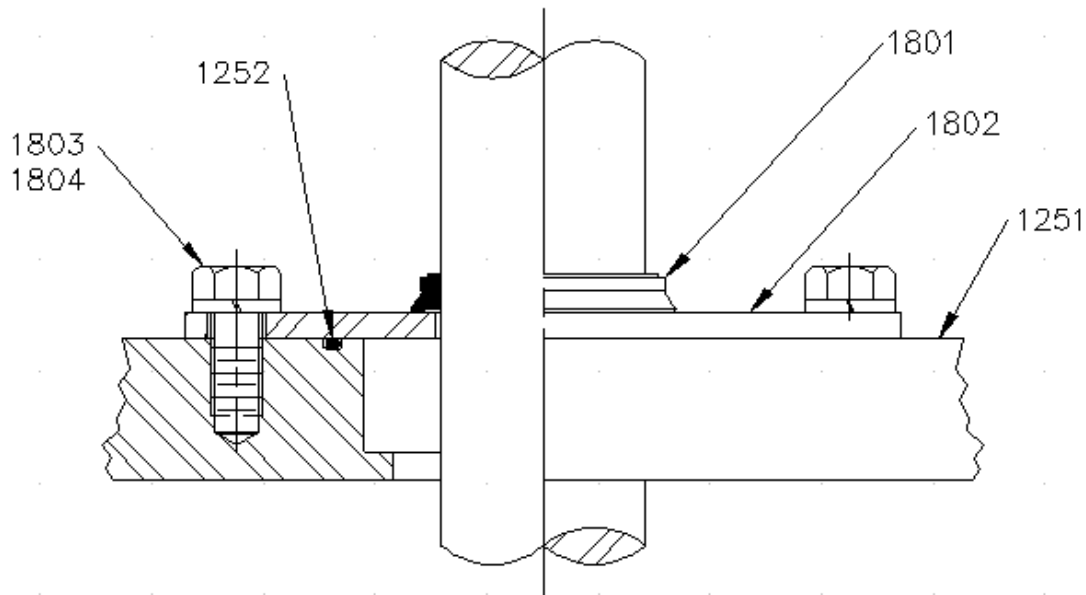

Figure 6. L Style – Lip Seal
6. Center the seal plate [1802] on the shaft. Torque bolts [1803] to the value shown in the APPENDIX, Page 89. Refer to Figure 6, page 23. Slide V-ring [1801] down the shaft to contact seal plate. If the process conditions allow, it is a good idea to lubricate the v-ring prior to start up with any compatible grease.